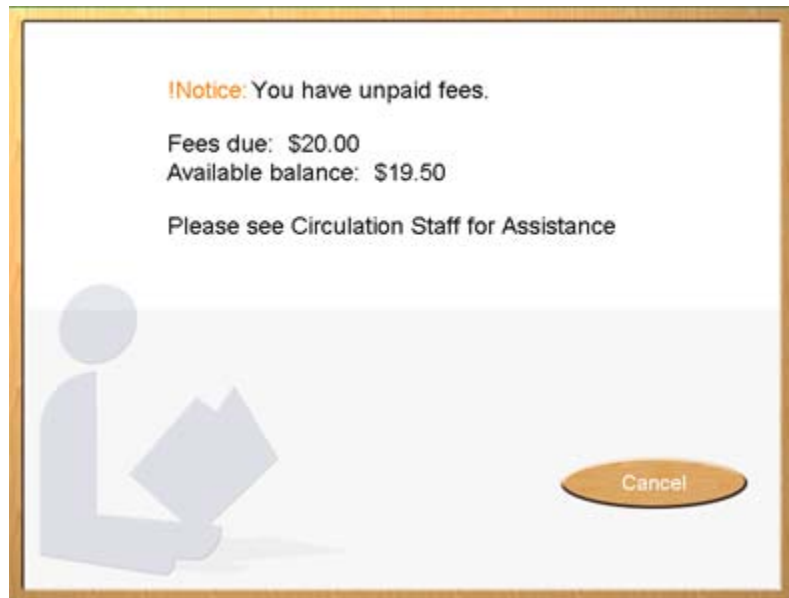

Figure 11.3 Insufficient funds message
- 4 If you have insufficient funds to pay the fee, the message shown in Figure 11.3 displays.